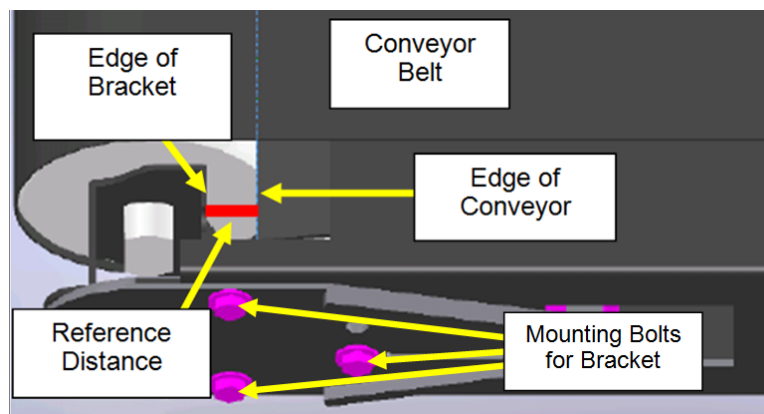

Figure 36: Reference Distance
Figure 36 shows a conveyor assembly with a Type 1 bracket. The distance between the edge of the conveyor and the edge of the bracket (as shown in the figure) is known as the “**Reference Distance**.” We use the Reference Distance to determine the optimum tension of the conveyor belt.
5. Loosen the mounting bolts on the conveyor bracket and move the bracket so that the Reference Distance is between 0.6in and 1.0in, measured from the edge of the conveyor to the edge of the bracket as shown in Figure 36.
Figure 36 shows a conveyor assembly with a Type 2 bracket. The distance between the edge of the conveyor and the edge of the bracket (as shown in the figure below) is known as the “**Reference Distance**.” We use the Reference Distance to determine the optimum tension of the conveyor belt.
Figure 36 shows a conveyor assembly with a Type 3 bracket. The distance between the edge of the conveyor and the edge of the bracket (as shown in the figure below) is known as the “**Reference Distance**.” We use the Reference Distance to determine the optimum tension of the conveyor belt.